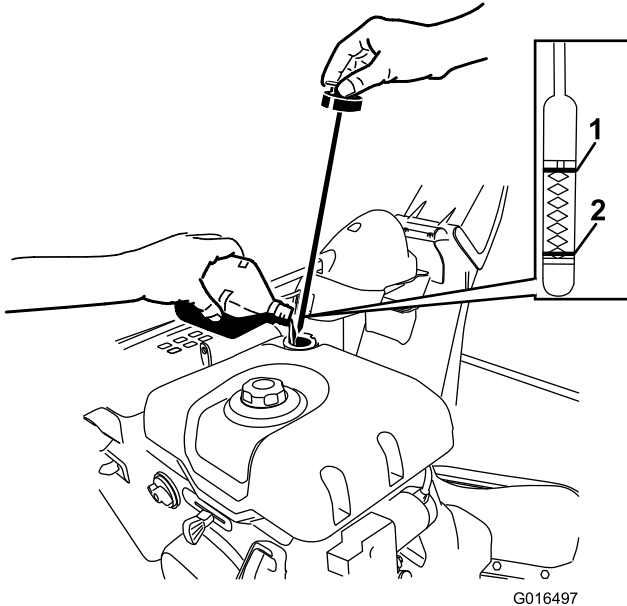

Figure 41
2. Remove the dipstick and check the oil level (Figure 41). If the oil level is below the Add mark on the dipstick, add oil. Refer to Changing the Engine Oil (page 23).